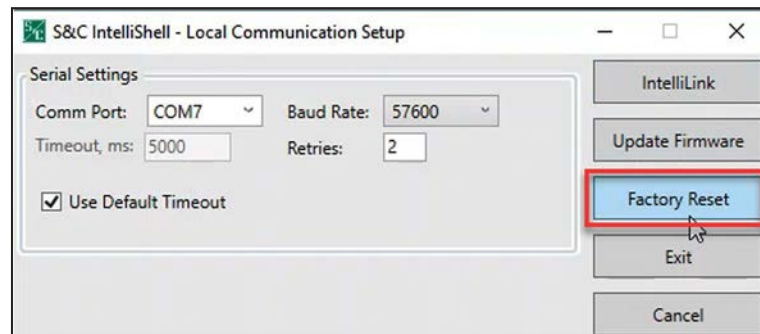

Figure 125. The Factory Reset button.
STEP 3. Click on the **Factory Reset** option to launch the **Factory Reset** procedure. See Figure 125.